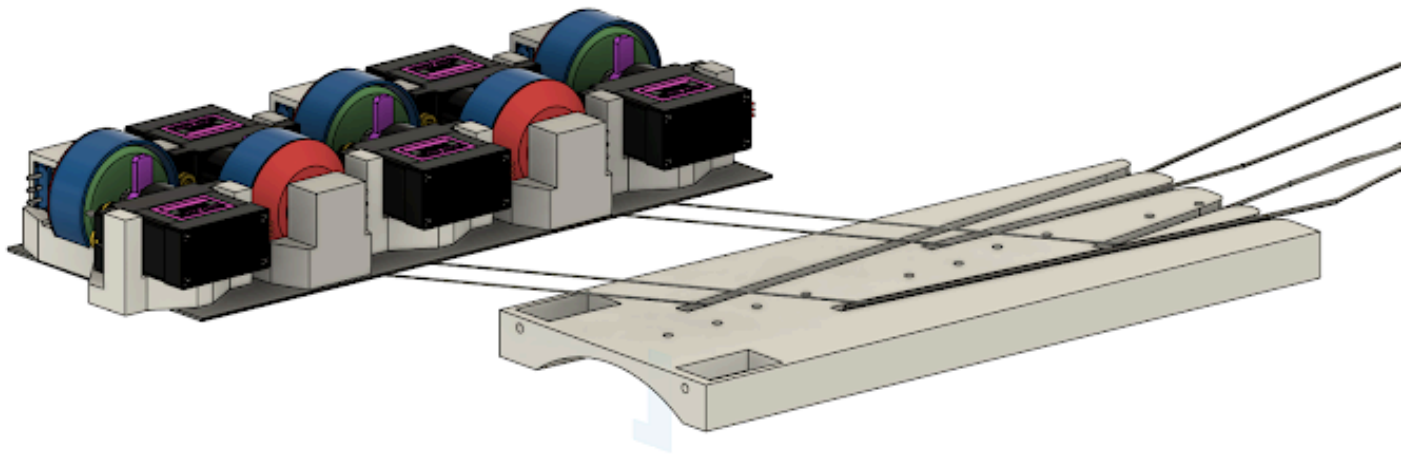

Figure 5.9: Each servo assembly string is threaded through the respective Servo Baseplate (Gray) tunnels.
11. Place each string from the first 4 servo assemblies into their corresponding tunnel in the Servo Baseplate (Figure 5.9).